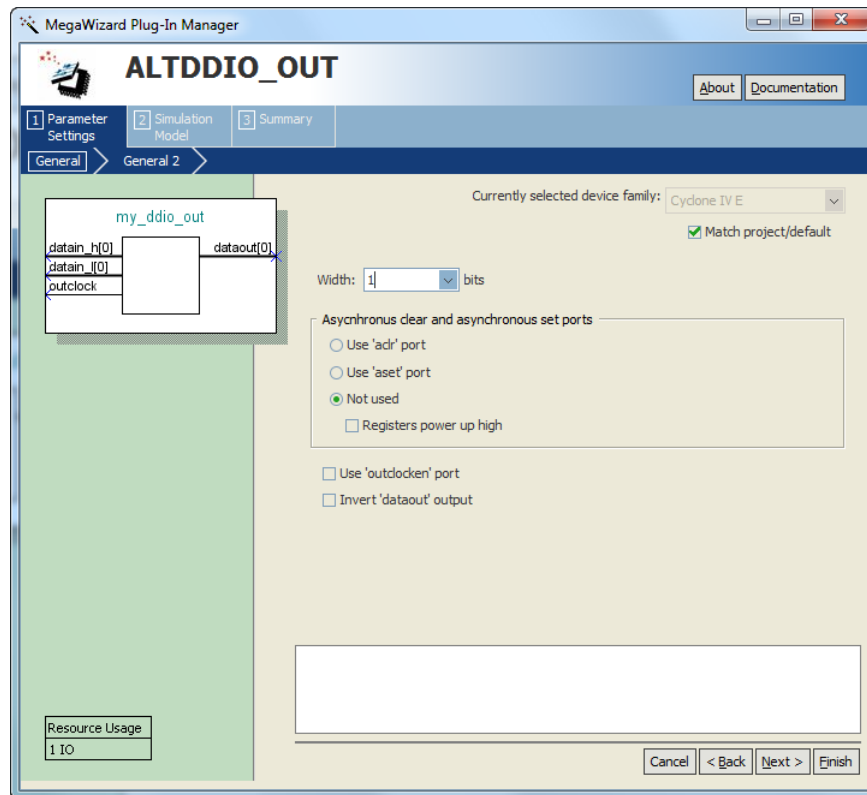

Figure 17. Settings for the DDIO_OUT register.
3. In the window in Figure 17, set the **width** to **1** bit. Also select **Not used** for the **asynchronous clear and asynchronous set ports** options.